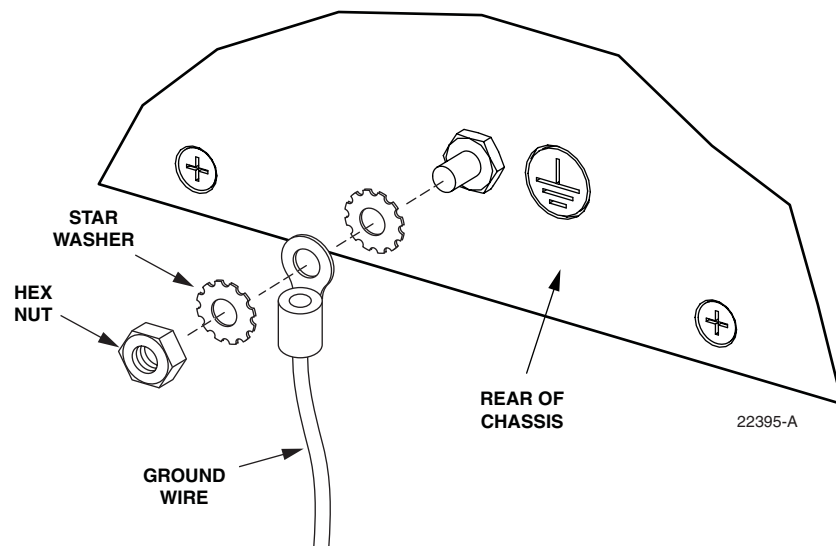

Figure 11. Chassis Ground Stud
3. Locate the chassis ground stud at the rear of the HU as shown in Figure 11.
4. Attach the ring end of the wire to the chassis ground stud (see Figure 11).